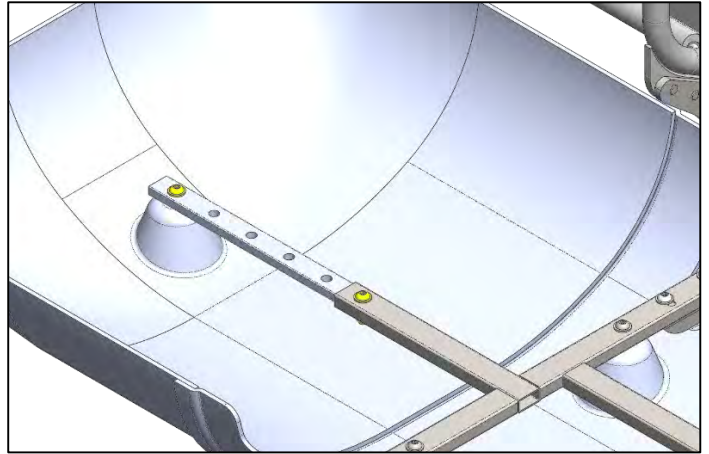

Fig. 6
- Secure in place using the M8x20 bolts, washers and nuts. (highlighted in Figure 6).